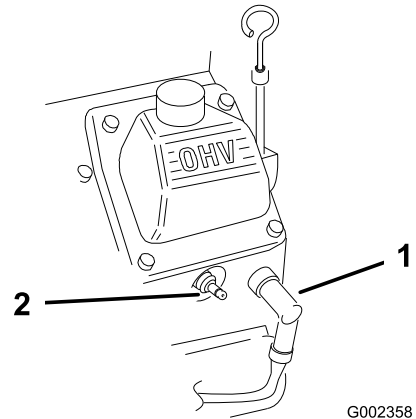

Figure 50
2. Disconnect the wires from the spark plugs (Figure 50).